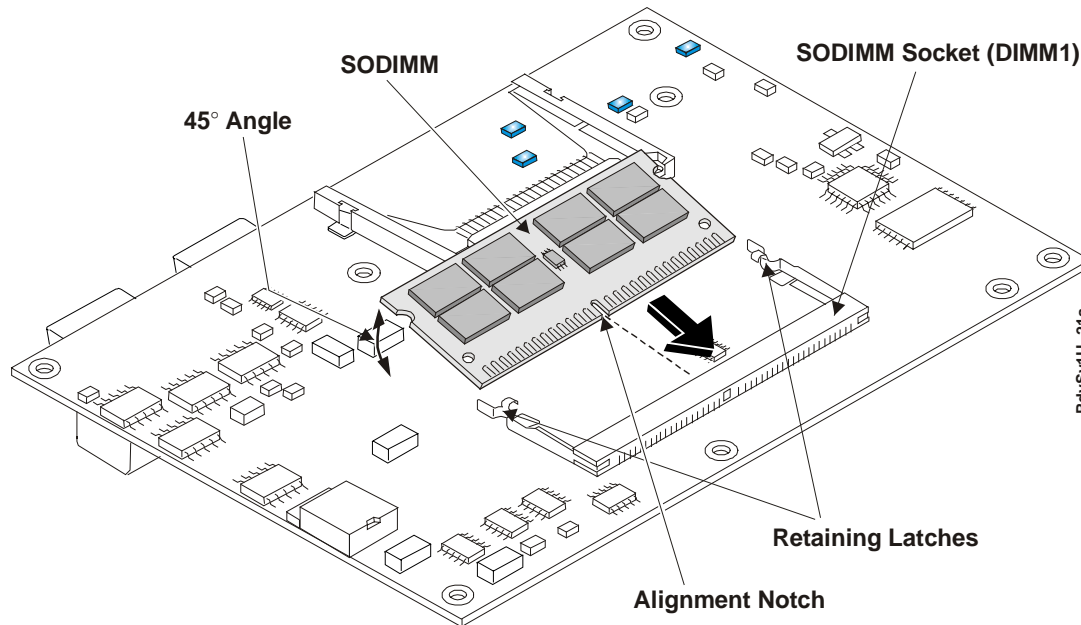

Figure 2-14. Installing SODIMM into Socket
7. Turn over the ReadyBoard model for access to the bottom of the board while laying it on a flat anti-static surface. See Figure 2-14.
11. Insert the SODIMM into the socket at a 45° angle to the bottom of the ReadyBoard model with the components facing up. See Figure 2-14.
12. Press the edges of the SODIMM down between the latches, until the latches snap into place. See Figure 2-14.